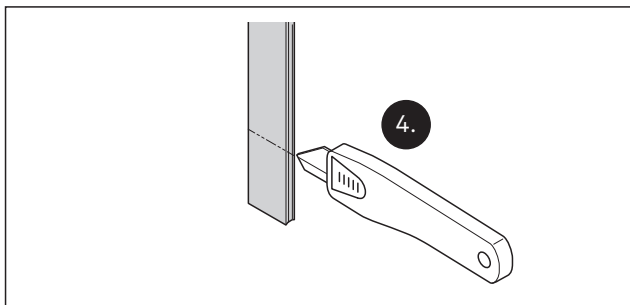

Fig. 9 Shortening the seal to 30 mm
4. Shorten the seal of the door frame's cover profile by 30 mm (Fig. 9).